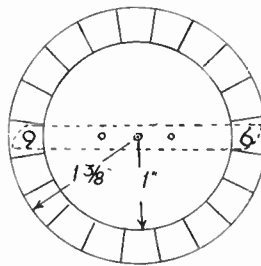

Fig. 3—Circle markings
Now press the lever to the left, and if all is O.K., the disc will be rotated to the left also. For discs (U) (units) cut two to the diameter in Fig. 3. It will be best here to describe the two circles on to paper and stick to the fretwood, leaving
Cut two of parts (E) and bore pivot holes at their exact centres. Fix these, one to each disc, to the back of the discs, in the position shown in Fig. 3, where the bar comes just behind opposite divisions. The parts, by the way, are cut from $\frac{1}{2}$ in. wood. Fit these discs to the backboard, with a thin brass washer under the heads of the screws.
crossbar (E) on the (U) discs, as shown in Fig. 3. The cover board can now be made.